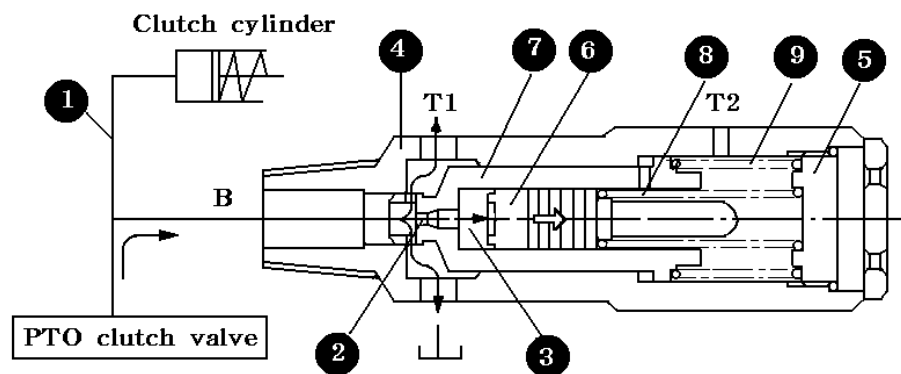

Fig.9-42 When the clutch is in half-engaged state
When the clutch cylinder is completely activated, the pressure in circuit (1) starts rising at point P1 on the graph in Fig.9-42. When the pressure reaches point P2, the piston starts moving to the right overcoming the force of spring (6 and 7).